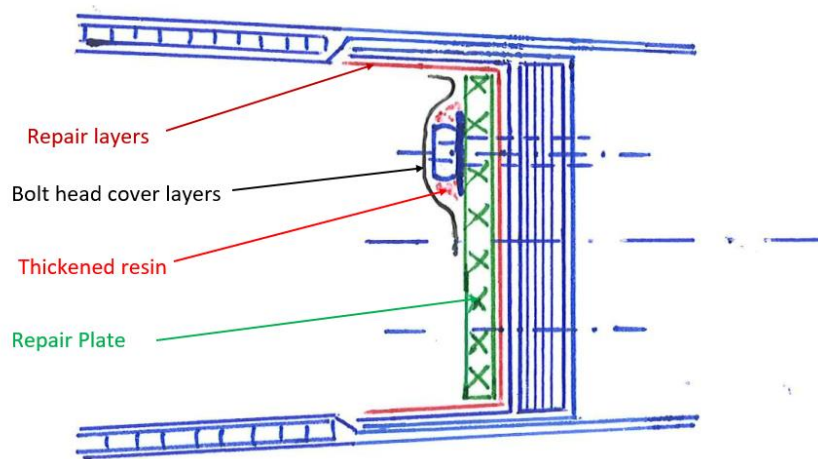

Figure 9: Repair schematic wing aileron attachment
- 7.2.12 Cover the insert along the spar with carbon fabric GS510040 $\pm 45^\circ$. Use three layers on location 3/16 (stagger the layers in span wise direction) and two layers on the other locations, refer to Figure 9.